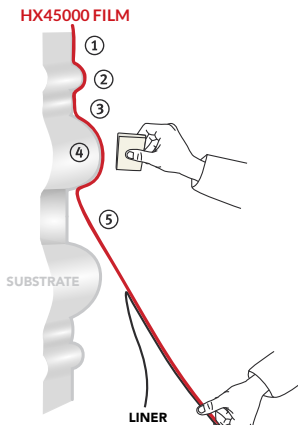

Figure 07
- › Gradually remove the liner while pulling it downward. (FIG. 07)
- › Start by applying the hollow ①, then the peak ② and finally the hollow ③.
- › Continue onto the next undulation ④, then keep going ⑤ until the application is completed.